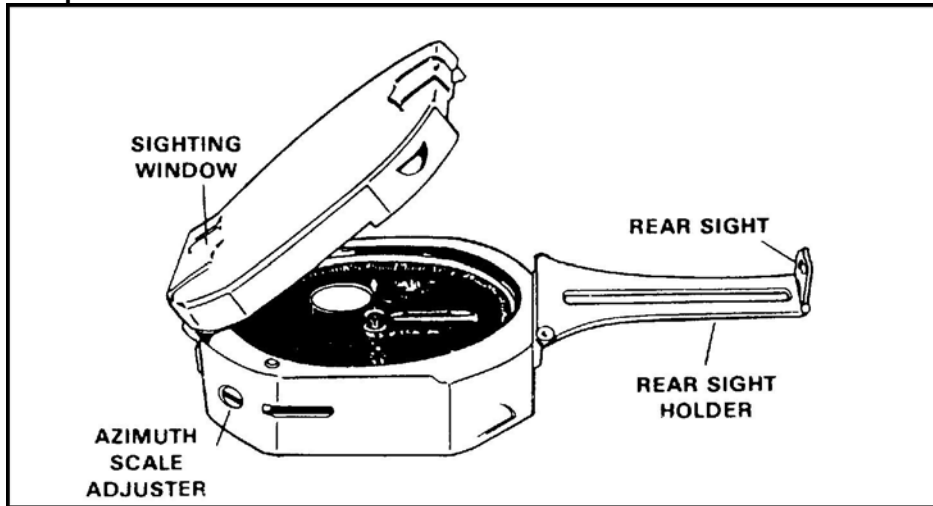

Figure 5. M2 compass cover angled.
- b. Place the compass cover to an angle of about 45 degrees to the face of the compass so that the scale reflection can be viewed in the mirror (Figure 5).